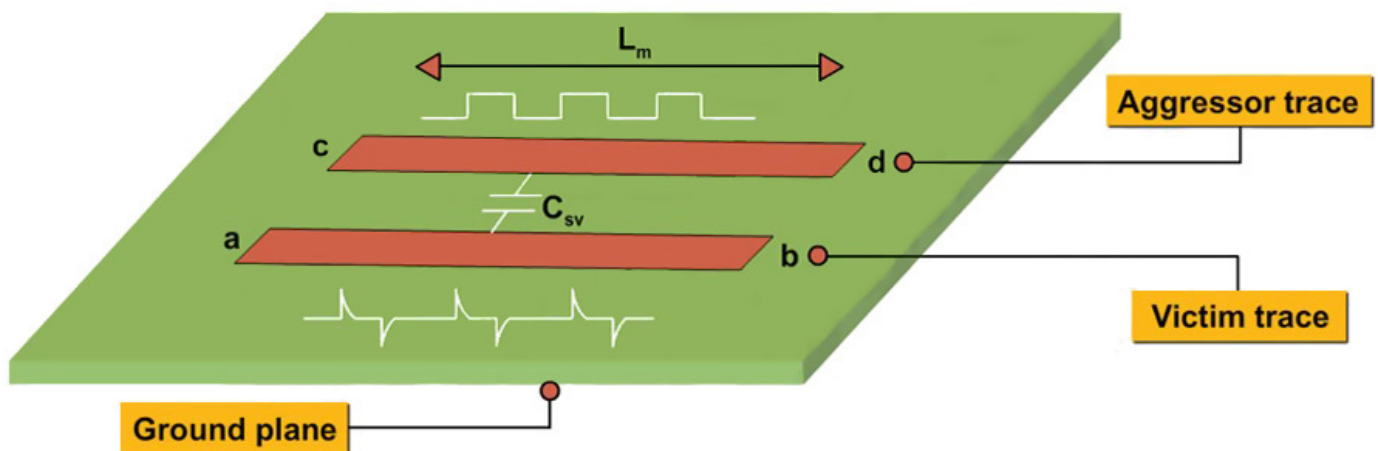

Figure 9. Mutual coupling between aggressor and victim traces.
5. Crosstalk. Crosstalk occurs when two adjacent conductors are close together, permitting energy to couple from the aggressor to the victim trace (**Figure 9**).